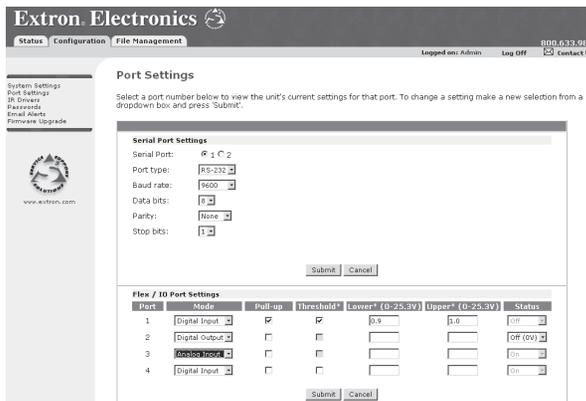

Figure 4-11 — Web server Port Settings screen
4. Click Port Settings on the menu (on the left side of the window) and the Port Settings screen (figure 4-11) is displayed.